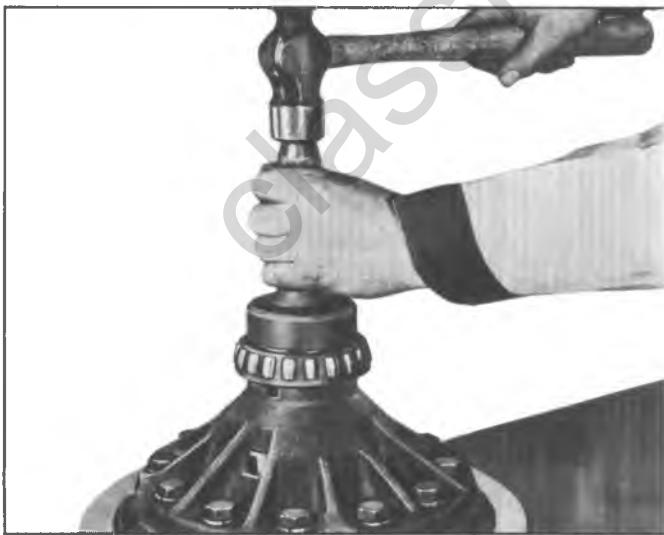

Fig. 8G—Differential Bearing Installation
3. Place new bearing on hub with thick side of inner race toward case and install bearing using J-1488 as shown in Figure 8G.